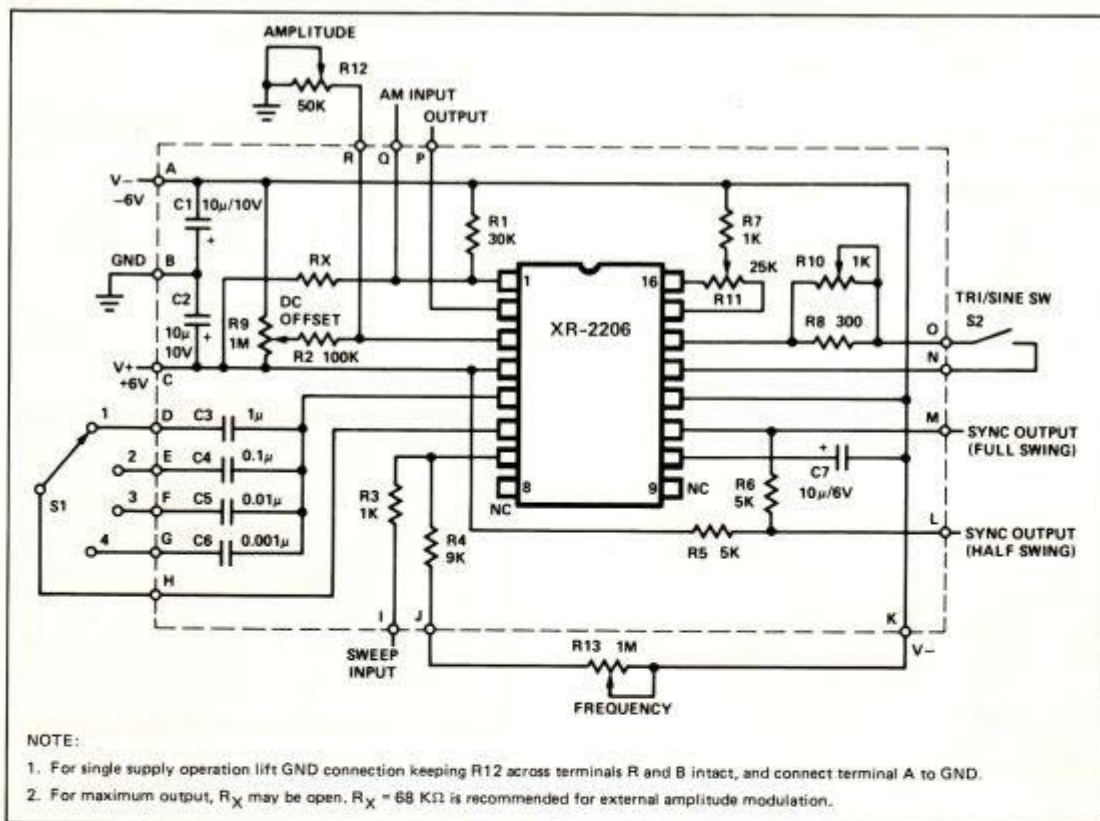

Figure 1. Circuit Connection Diagram for Function Generator. (See Note 1 for single supply operation.)
The basic circuit configuration and the external components necessary for the high-quality function generator system is shown in Figure 1. The circuit shown in the figure is designed to operate with either a 12V single power supply, or with a  $\pm 6V$  split supplies. For most applications, split-supply operation is preferred since it results in an output DC level which is nearly at ground potential.
The circuit configuration of Figure 1 provides three basic waveforms: sine, triangle and square wave. There are four overlapping frequency ranges which give an overall frequency range of 1 Hz to 100 kHz. In each range, the frequency may be varied over a 100:1 tuning range.
The performance characteristics listed below are not guaranteed or warranted by Exar. However, they represent the typical performance characteristics measured by Exar's application engineers during the laboratory evaluation of the function generator system shown in Figure 1. The typical performance specifications listed below apply *only* when all of the recommended assembly instructions and adjustment procedures are followed:
- (b) **Frequency Setting:** At any range setting, frequency can be varied over a 100:1 tuning range with a potentiometer (see  $R_{13}$  of Figure 1).
The above expression is accurate to within  $\pm 5\%$  at any range setting. The timing resistor  $R$  is the series combination of resistors  $R_4$  and  $R_{13}$  of Figure 1. The timing capacitor  $C$  is any one of the capacitors  $C_3$  through  $C_6$ , shown in the figure.
- (d) **Sine and Triangle Output:** The sine and triangle output amplitudes are variable from 0V to  $6V_{pp}$ . The amplitude is set by an external potentiometer,  $R_{12}$  of Figure 1. At any given amplitude setting, the triangle output amplitude is approximately twice as high as the sinewave output. The internal impedance of the output is  $600\Omega$ .
- (f) **Sync Output:** The sync output provides a 50% duty cycle pulse output with either full swing or upper half swing of the supply voltage depending on the choice of sync output terminals on the printed circuit board (see Figure 1).
- (g) **Frequency Modulation (External Sweep):** Frequency can be modulated or swept by applying an external control voltage to sweep terminal (Terminal 1 of Figure 1). When not used, this terminal should be left open-circuited. The open circuit voltage at this terminal is approximately 3V above the negative supply voltage and its impedance is approximately 1000 ohms.
(h) **Amplitude Modulation (AM):** The output amplitude varies linearly with modulation voltage applied to AM input (terminal Q of Figure 1). The output amplitude reaches its minimum as the AM control voltage approaches the half of the total power supply voltage. The phase of the output signal reverses as the amplitude goes through its minimum value. The total dynamic range is approximately 55 dB, with AM control voltage range of 4V referenced to the half of the total supply voltage. When not used, AM terminal should be left open circuited.
The following is a list of external circuit components necessary to provide the circuit interconnections shown in Figure 1.
The following additional items are recommended to convert the circuit of Figure 1 to a complete laboratory instrument: